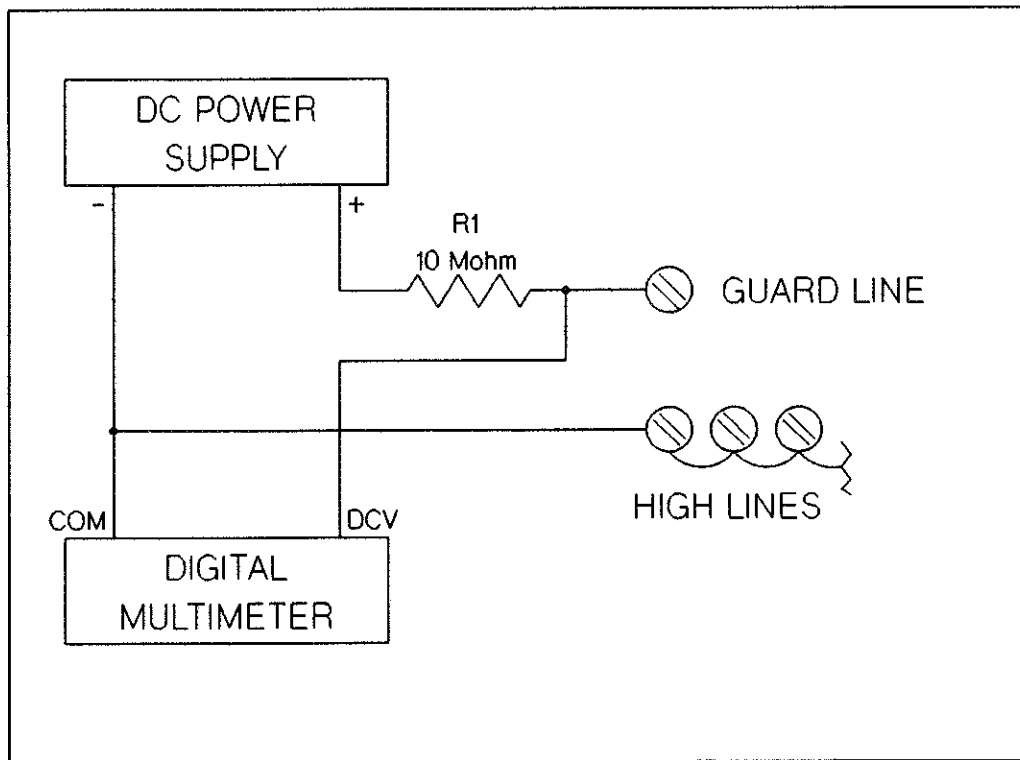

Figure 8-43 HP 44706A HIGH to GUARD DC Isolation
14. Connect the test circuit between the shorted HIGH lines and the GUARD line of the test fixture as shown in Figure 8-43.